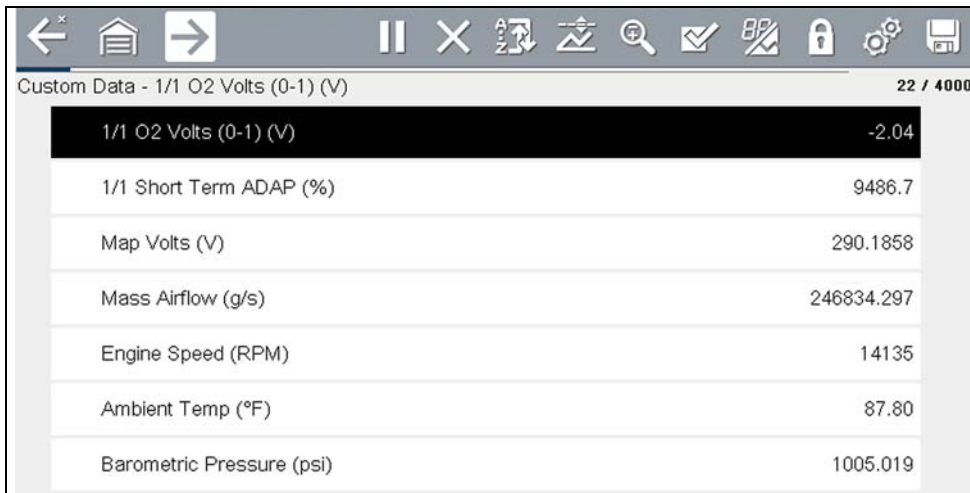

Figure 6-19
4. The custom list displays (Figure 6-19).